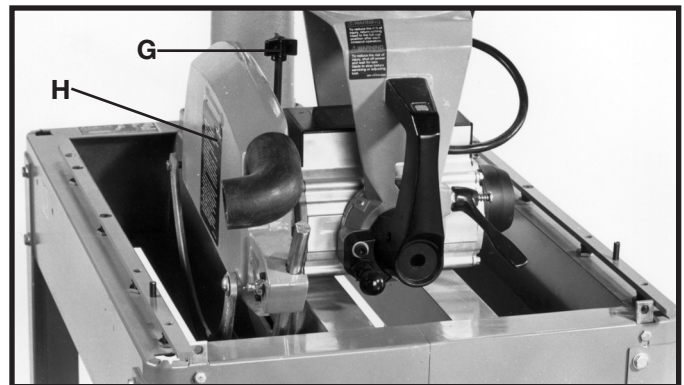

Fig. 9
5. Unscrew and remove blade guard clamping rod and washer (G) Fig. 9, and remove blade guard assembly (H).